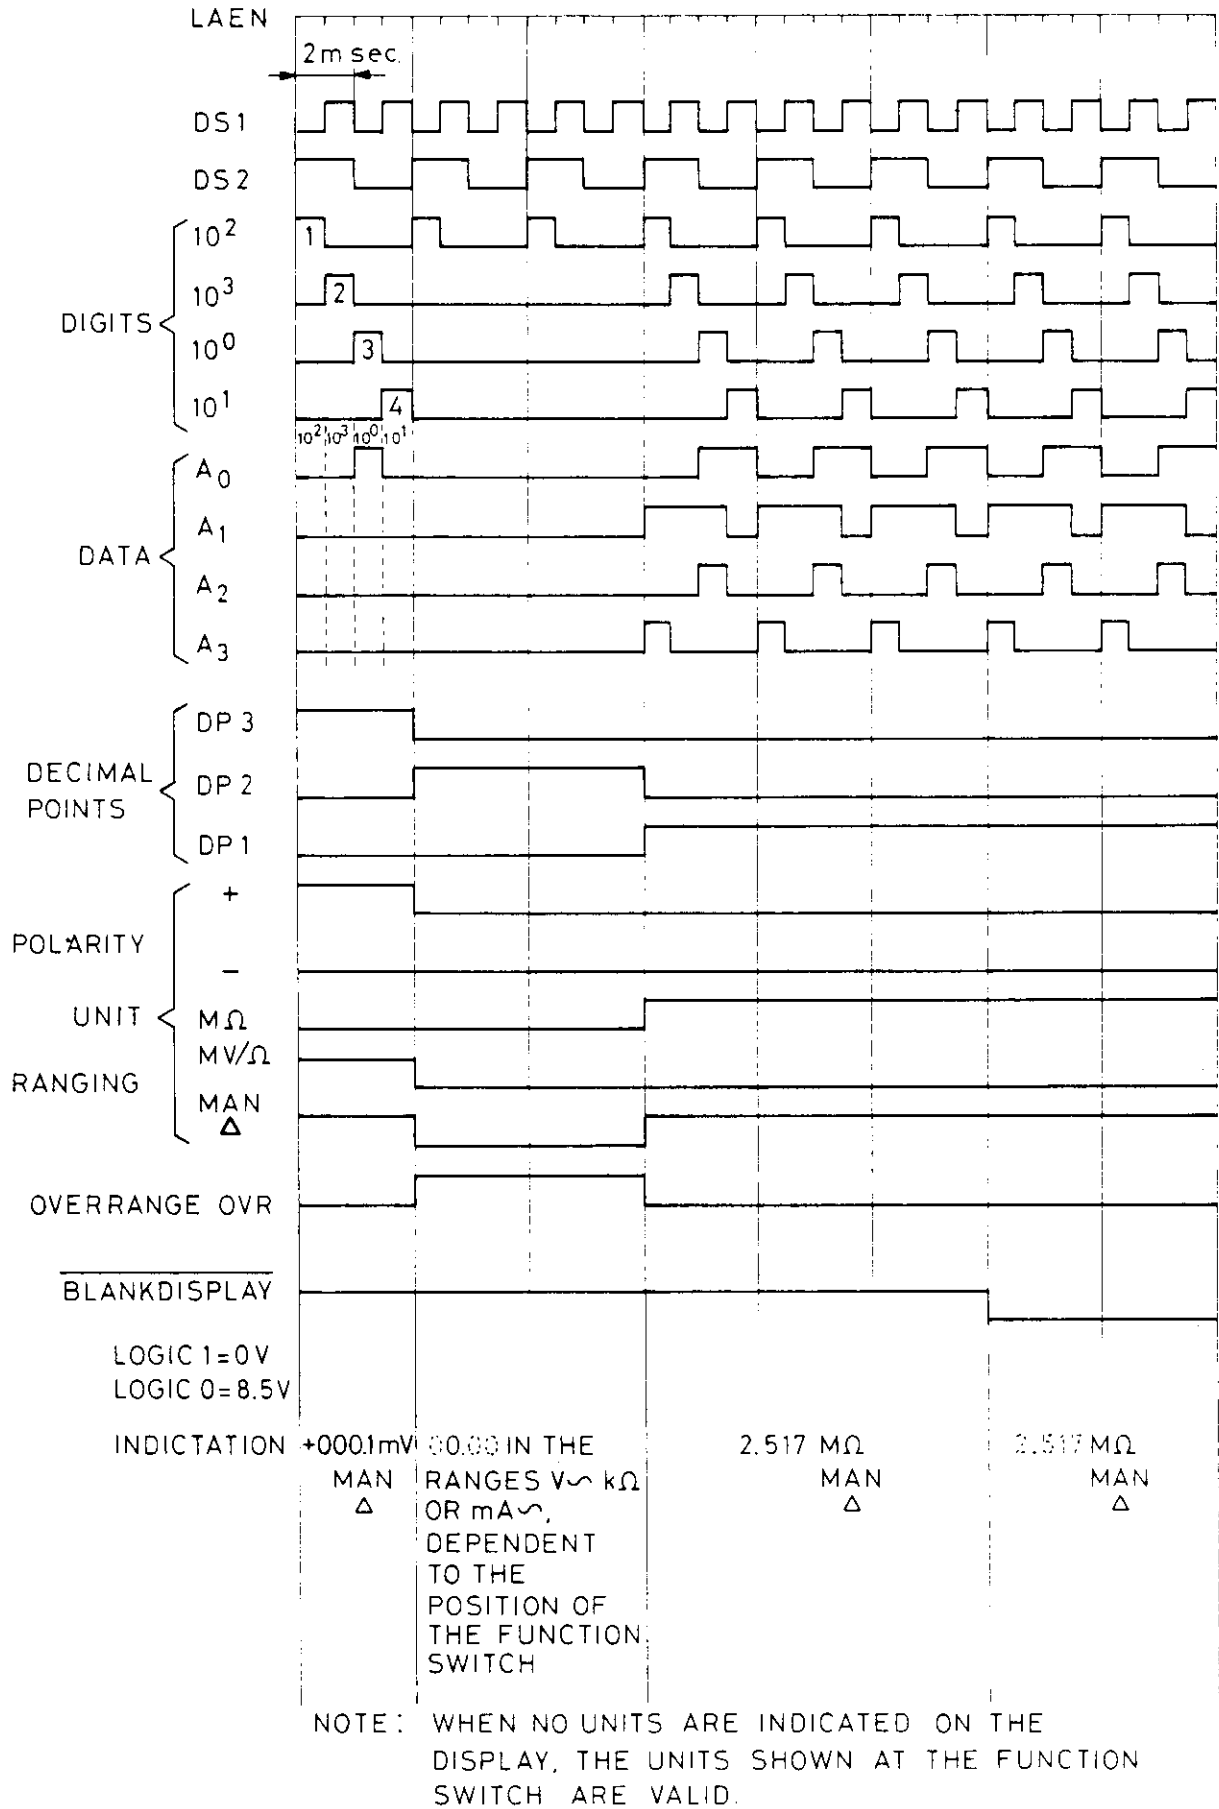

Fig. 25.
DS1, DS2 (digit select) and LAEN (latch enable) are used for timing of the display unit. (Refer Fig. 25.).
3.3.5. Display unit N2 (Fig. 25 and 54)**3.3.5.1. General**
As a serial display is used the data is switched with the speed of clock signal DS 1. The data is switched in the following order: 10^2 , 10^3 , 10^0 and 10^1 . (Refer to the timing diagram Fig. 25).
Signals DS1 and DS2 are supplied to the dual 1 of 4 decoder D 702 (see timing diagram, Fig. 25).